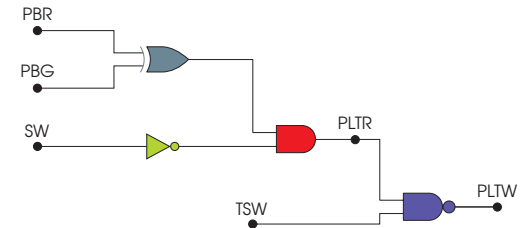

Figure 7-33. Logic gate circuit for Example 7-3.
Create the PLC ladder logic diagram for the logic gate circuit displayed in **Figure 7-33**.
Examine **Figure 7-33**. The pilot light red (PLTR) output section has three inputs: PBR, PBG, and SW. Pushbutton red (PBR) and pushbutton green (PBG) are inputs to an XOR logic gate. The output of the XOR logic gate and the inverted switch (SW) are inputs to a two-input AND logic gate. These inputs generate the pilot light red (PLTR) output.